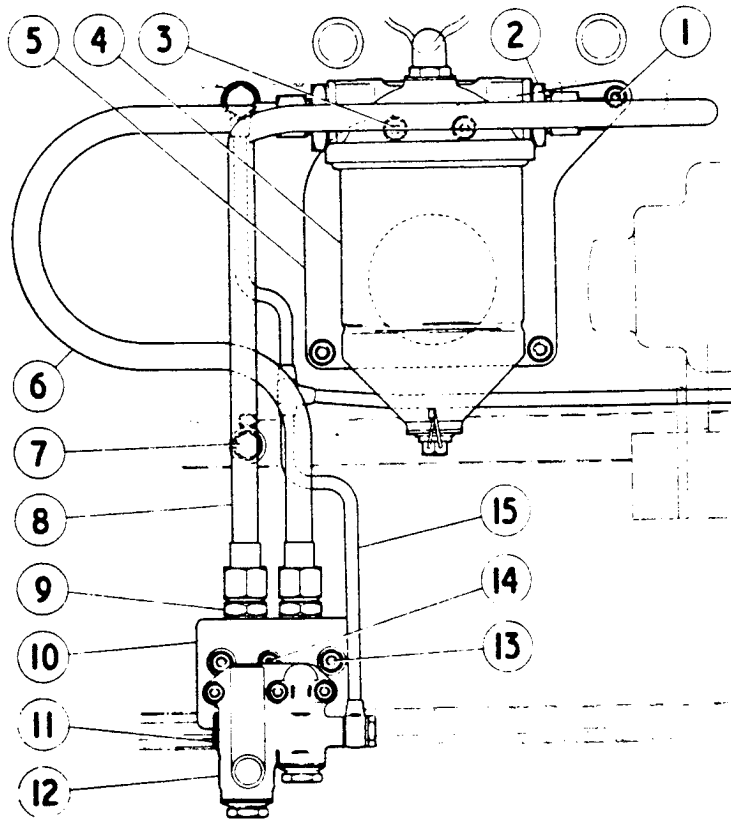
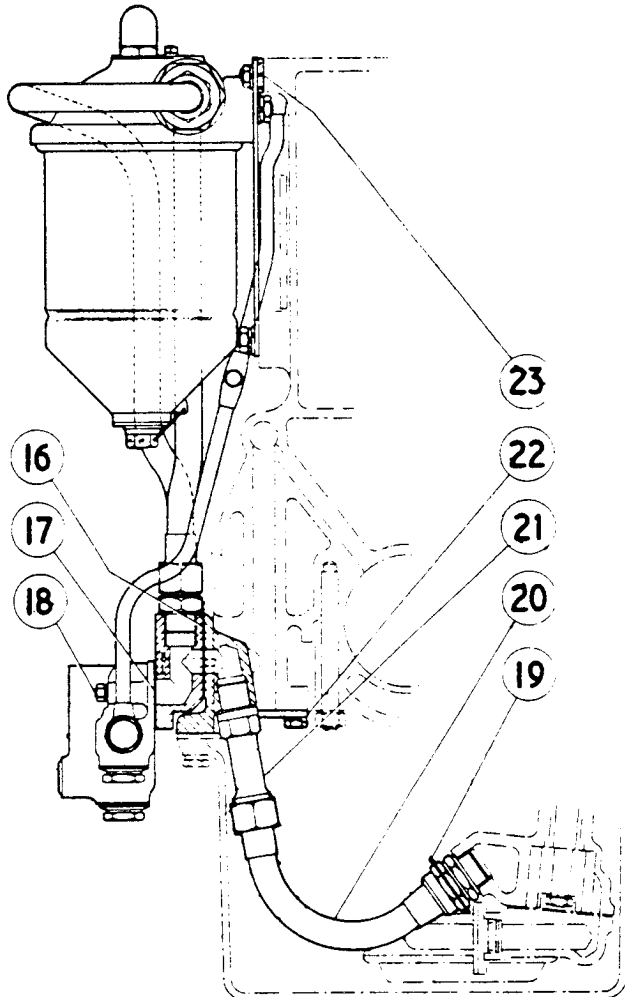
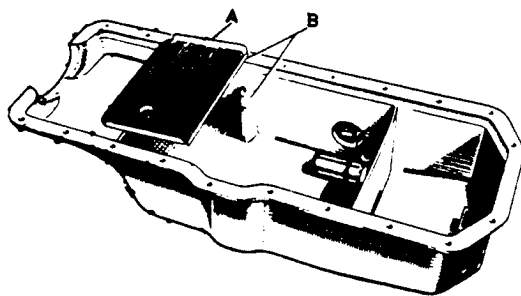

FIG. 9. FRONT ELEVATION - FULL FLOW OIL FILTER.
FIG. 10. END ELEVATION - FULL FLOW OIL FILTER.
FIG. 11. CRANKCASE LOWER HALF.
The hole should be tapped sufficiently to allow the threaded end of the pilot of the spot facing tool, R-4670 to be a 'feel' fit when screwed into position, this will also allow the threaded end of the stand pipe, (21 Fig.10) to be a similar fit, i.e. not tight or slack, when fitted. As the wall thickness of the hole may vary from engine to engine, the reaming and tapping operations should be carefully carried out.
NOTE: In the unlikely event of the lug having been machined back on an engine prior to 'H' series chassis, then it will be necessary to fit the circular distance piece (23 Fig. 10) interposing it between the filter mounting plate and the lug when fitting the mounting plate and filter assembly to the crankcase as described in Sub-para. xv.
- (vii) After removing ALL TRACES OF SWarf from the crankcase, blank off the original vertical oil feed hole to the oil gallery inside the crankcase by fitting the cover, 22 Fig. 10, securing it with the two setscrews and lockwashers. Thoroughly clean internally all oil pipes.
- (viii) Fit the standpipe (21) and joint washer to the .750" dia. tapped hole in the crankcase. With the oil pump in position, fit the new oil feed pipe (20), securing the union nut (near pump) with the existing locking plate (19). SET NEW PIPE IF NECESSARY TO AVOID
- (x) Fit the three studs, 18 (2-BA x 1.600" long) to the transfer block (10 Fig.9), also the two adaptors (9) and joint washers. Place the block complete with its Vellumoid joint R-4497, on to the crankcase.
- (xi) Remove the union from the oil relief valve unit and fit the core plug (11) and joint washer. Place the unit and the Vellumoid joint (EB-3953) on to the transfer block. While tightening up the three nuts to secure, check that the end of the centre stud (14) or nuts securing the transfer block to the crankcase do not foul the casing of the oil relief valve unit. The unit is inverted for fitting under this arrangement as shown in Fig.9.
- (xiii) When offering up the lower half of the crankcase, it will be found that the union nut securing the oil feed pipe to the standpipe (24) fouls the oil baffle ('A' Fig.11) and the locating lug at points 'B'. Remove the baffle and file the lug until it just clears the nut and then file the edge of the baffle to suit. It may also be necessary to file the inside of the lower half of the crankcase to clear the nut. Refit the baffle.
- (xiv) With the crankcase lower half assembled to the engine, fit the low pressure oil pipe assembly, (15) and joint washers.
- (xv) Fit the two unions (2 Fig.9) and joint washers to the filter and attach it to the mounting plate by means of the two setscrews, (3) spring and plain washers. Fit the assembly to the crankcase. (See "Note" under Sub-para. vi of Para. 7, concerning the circular distance piece, 23 Fig.10). With a syringe, inject a recommended S.A.E.20 engine oil into the filter through EACH of the two unions until it is full, then connect the inlet and outlet oil pipes (6 & 8) to the transfer block and filter.
- a) Before starting up the engine, unscrew the union nut of the inlet oil pipe (6 Fig.9) from the union on the filter, and with a syringe, fully prime the pipe and then prime the oil filter. Reconnect the union nut.
Concerning Scheme 'B' of Service Bulletin No. BB-143 (Section E), it has been brought to our notice that in one or two instances the external inlet and outlet oil feed pipes, (6 & 8 Fig. 9 of Bulletin No. BB-143) to and from the Full Flow Filter have been reversed when fitting to the transfer block (10). This arrangement causes the filter element to collapse and block the oil flow.
It will be observed upon reference to Fig. 9, that the lower end of the inlet oil pipe (6) is connected to the right-hand side of the transfer block and the outlet oil pipe (8) to the left-hand side.